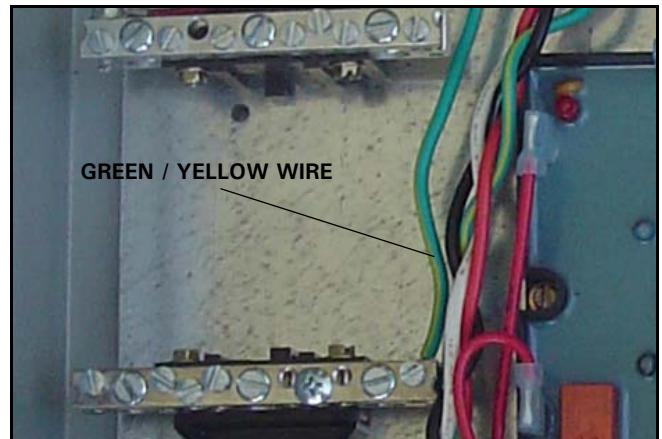

Figure 60. TVSS Green / Yellow Wire Connected to the Ground Bar.
Step 14: Secure the green / yellow TVSS wire to a receptacle on the ground bar using a blade screwdriver (see Figure 60).